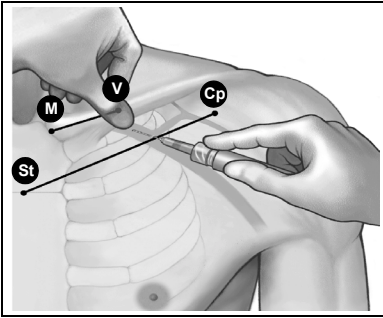

Figure 6. Location of thumb and needle entry.
4. Press a thumb against the index finger and project one or two centimeters below the clavicle to shield the subclavius muscle from the needle (when hypertrophy of the pectoralis muscle is apparent, the thumb should project about two centimeters below the clavicle because the subclavius muscle should be hypertrophied as well) (Figure 6).